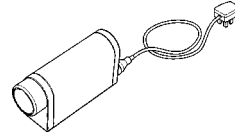

Fig. 13
4. Plug the charger into the mains power outlet (see fig. 13). An amber light will illuminate, indicating there is power to the charger.